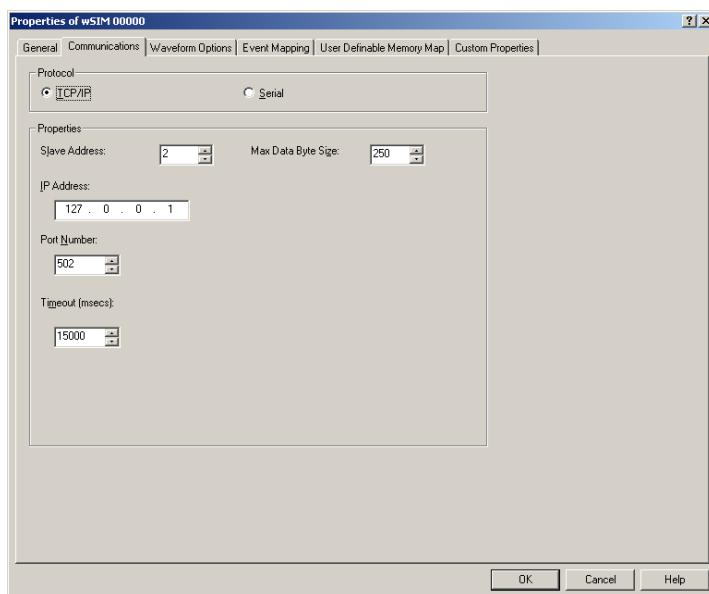

Figure 4-4: wSIM Modbus Settings
b. Enter the following information on the Communications Tab, see Figure 4-4.